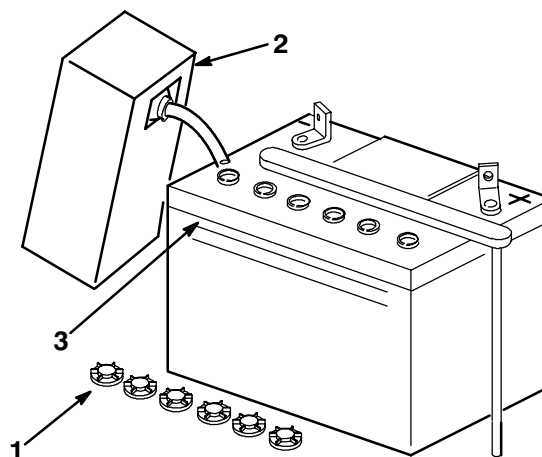

Figure 1
2. Unscrew six filler caps from the battery. Slowly pour electrolyte into each cell until the level is up to the "UPPER" line on the battery case (Fig. 1).
5. Slowly pour electrolyte into each cell until the level is once again up to the "UPPER" line on the battery case (Fig. 1).